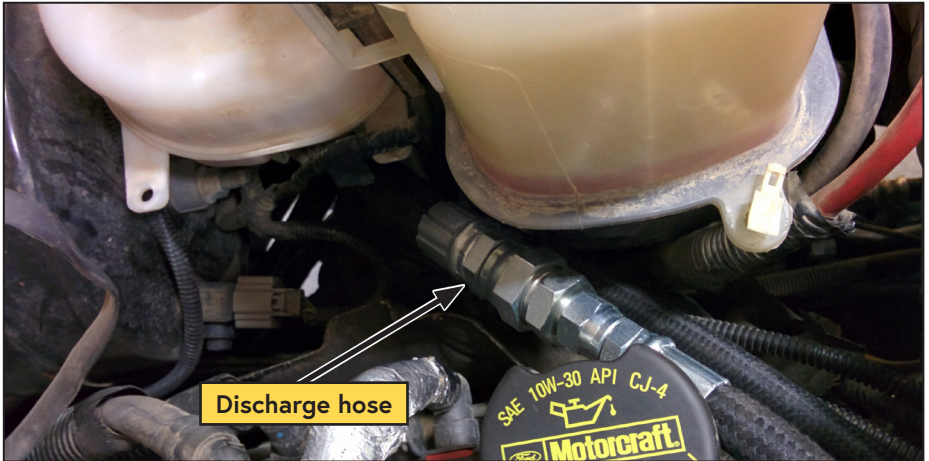

Figure 25 — Discharge hose assembly routing
- The discharge hose assembly should rest naturally near the coolant reservoir on the driver side of the vehicle (Figure 25).